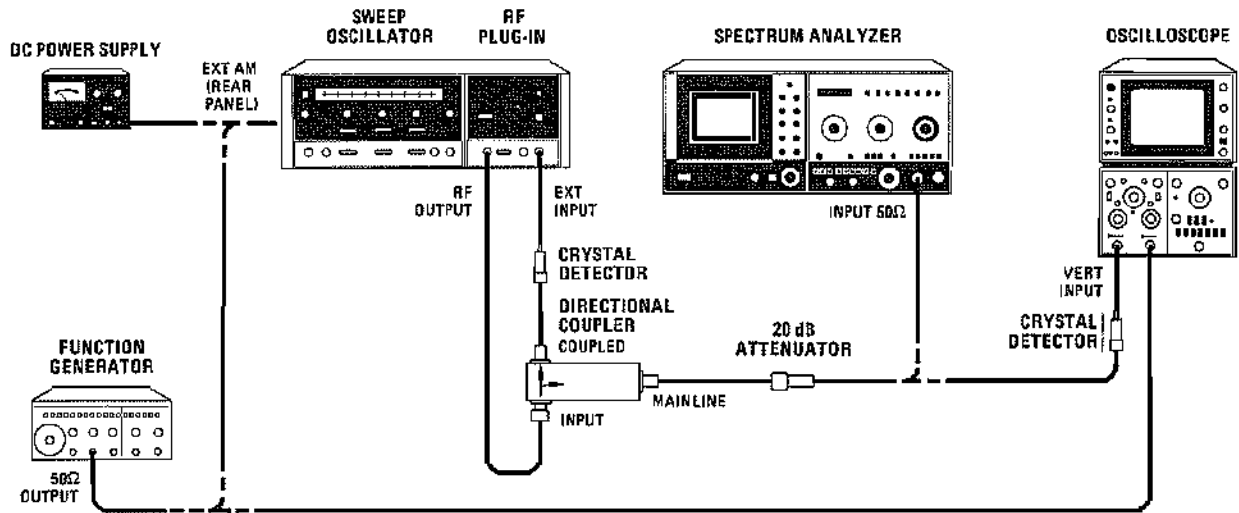

Figure 4-19. Amplitude Modulation Test Setup
- a. Connect equipment as shown in Figure 4-19 with spectrum analyzer connected to 20 dB attenuator and power supply connected to rear panel EXT AM connector.
- i. Connect function generator to 8620C EXT AM input and CH B input of oscilloscope as shown in Figure 4-19. Set function generator for 27.8 kHz and adjust for 6V peak-to-peak output as shown on CH B of oscilloscope. Connect VERTICAL OUTPUT from spectrum analyzer (rear panel) to CH A input of oscilloscope.
- l. Disconnect spectrum analyzer from RF Plug-in. Connect oscilloscope and crystal detector to 20 dB attenuator as shown in Figure 4-19.
- o. Connect spectrum analyzer as shown in Figure 4-19 and set controls same as in step h except set REF LEVEL controls to place signal at top graticule line. Adjust 8565A TUNING control for maximum signal amplitude on spectrum analyzer display. Set REF LEVEL controls to place signal at top graticule line.